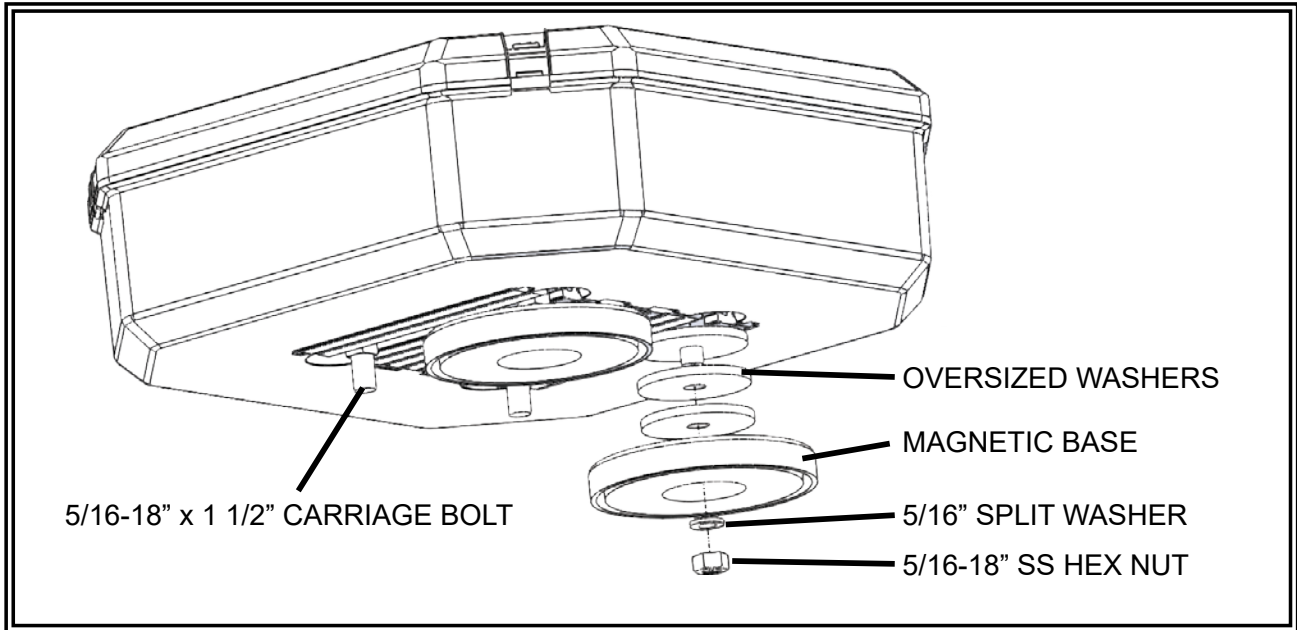

FIGURE 2
2. Place oversized washers over bolts as shown in FIGURE 2.